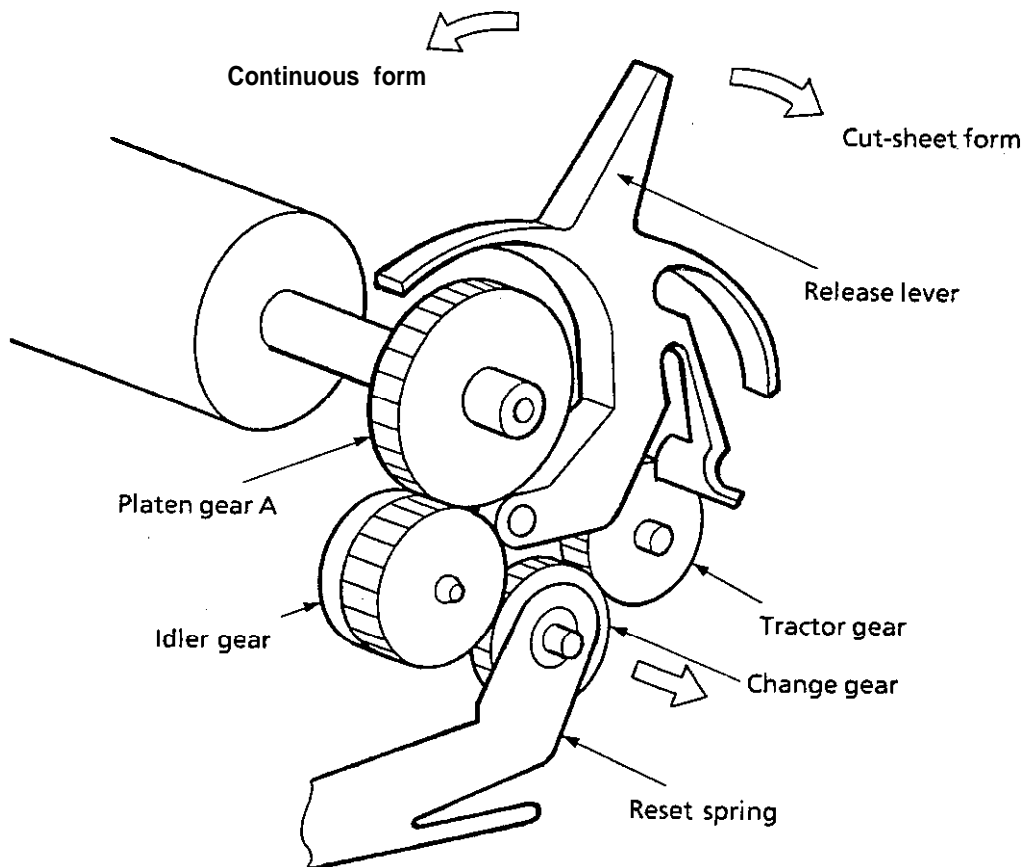

Figure 3-9
(3) Cut-sheet and continuous sheet switching mechanism (See Figure 3-9.)